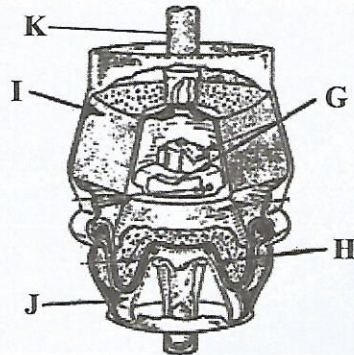

Figure 3
- (b) **Figure 3** shows a component of the suspension system.